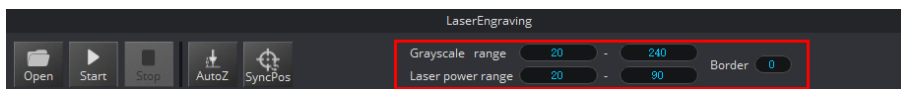

Figure 5.97 Set the grayscale range, laser power range, and border
Step 3 Set the **Grayscale range**, **Laser power range**, and **Border**, as shown in Figure 5.97. For details, see Table 5.11.